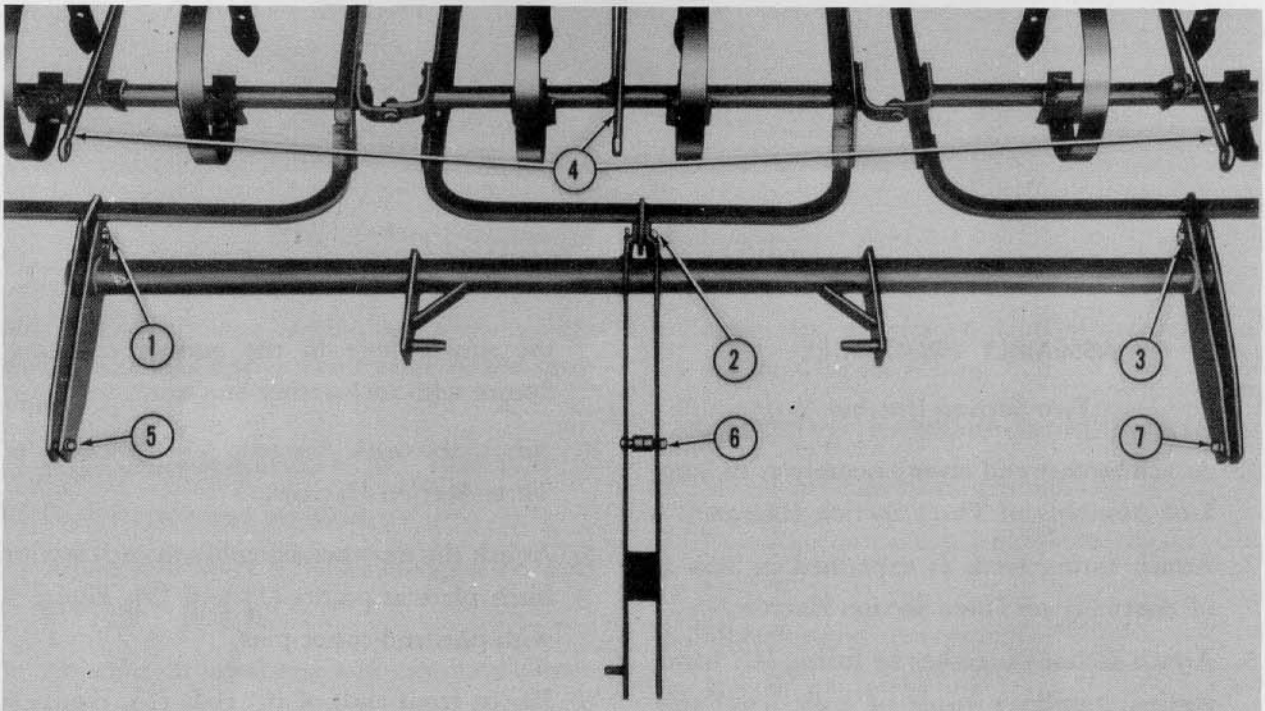

Figure 8
7. Attach the drawbar assembly to each section hitch plate at points (1), (2) and (3), Figure 8, with pins and cotter pins.
8. Raise the drawbar struts to vertical and fasten the front ends of the lift rods (4), Figure 8, at points (5), (6) and (7). Use carriage bolt and one bushing at points (5) and (7) and two spacers on carriage bolt at point (6).